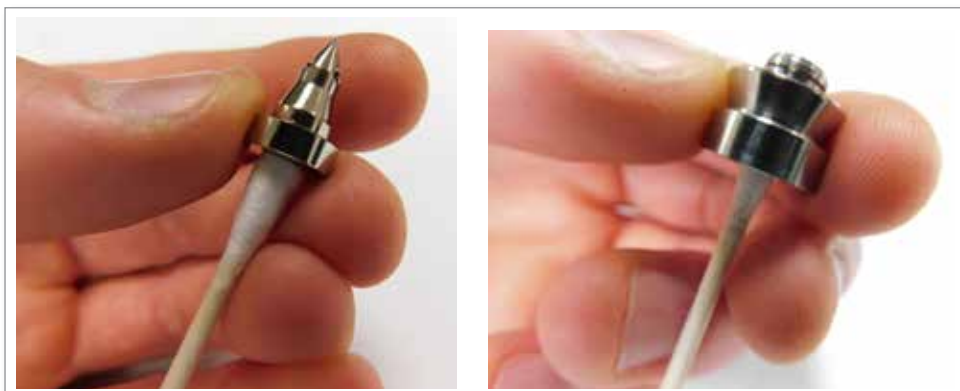

Figure 5-87 Clean torpedo and transfer seal
4. If necessary, clean the interior surfaces and screw threads with a cotton swab. See Figure 5-87.